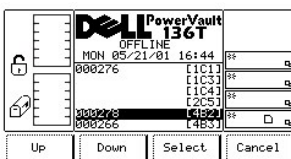

Figure 19. Status >Library > Media Selection Dialog
- 1 If the button beneath the **Select** softkey is pressed, the selected field becomes the active field. Refer to Figure 19.